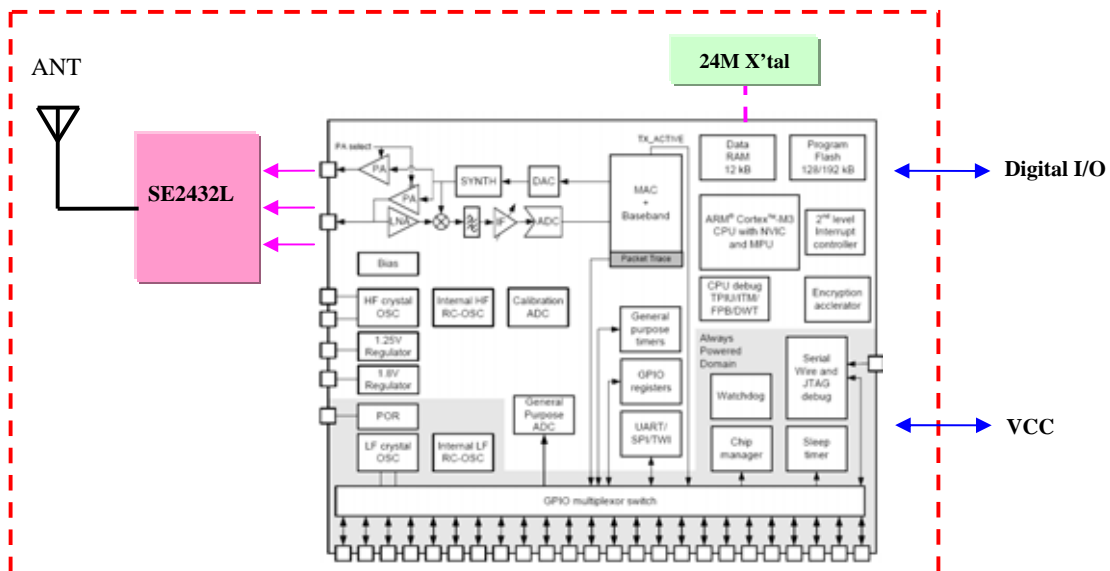

Figure 3-2: DFZM-E721x Block Diagram
- The high power module option has a capability of +18.5dBm output power at the antenna (see Figure 3-2).